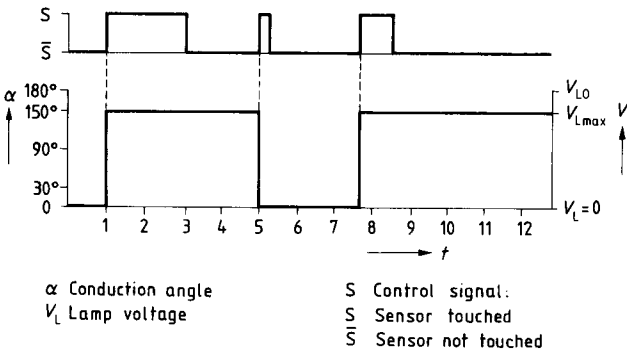

Figure 2
2. Light switch S 576 D (see figure 2)